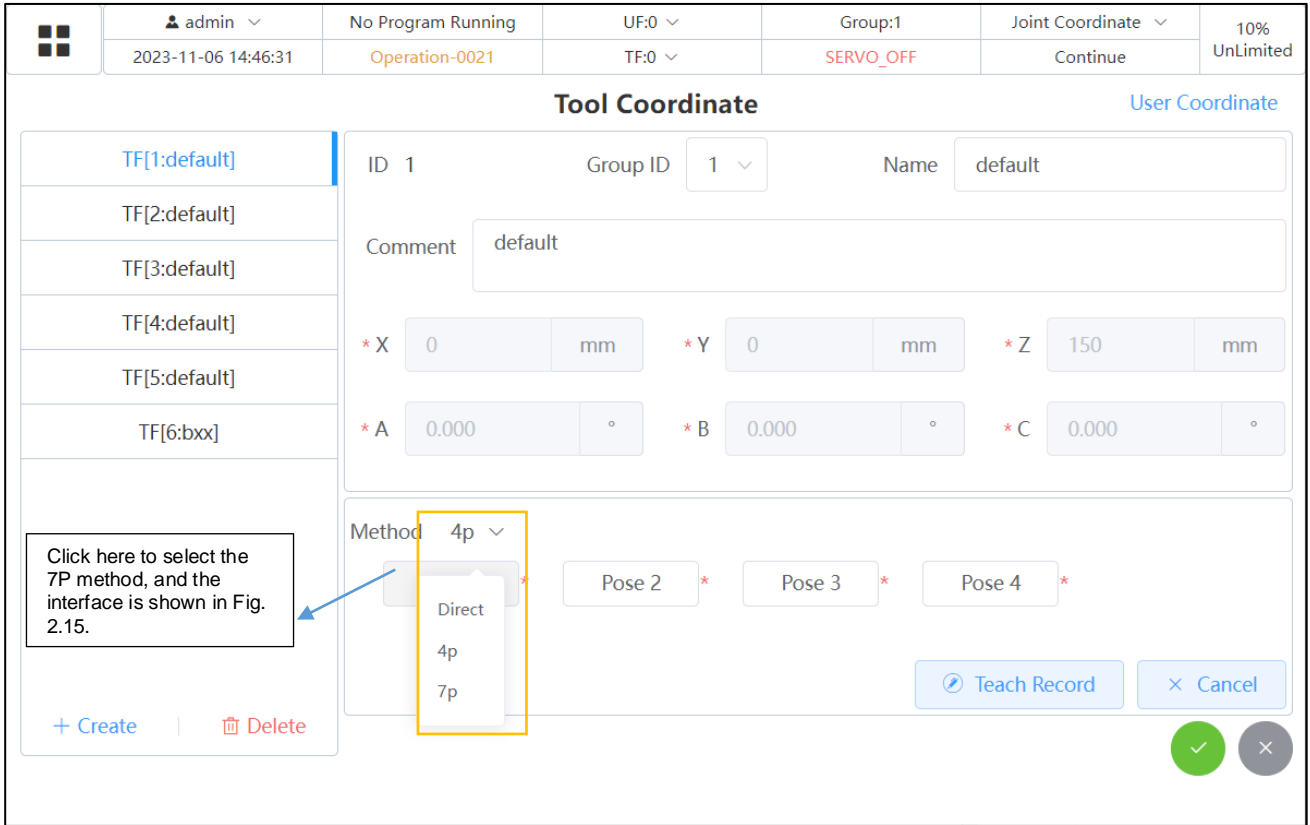

Fig. 2.14 Tool Coordinate System Setting Interface 2
2. Click "New" or select the tool coordinates to be set → click "Edit", and the interface is shown in Fig. 2.14.